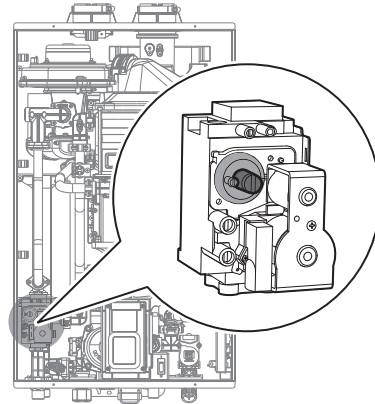

Figure 10
- c. Fully open a hot water fixture and set the water heater to operate at 1-stage MIN mode (refer to page 45). Measure the offset value at low fire and compare it to the values in Table 3. If the offset value is out of range, the gas valve set screw will need to be adjusted. If adjustment is necessary, locate the set screw as shown in Figure 10. Using a 5/32 in or 4 mm Allen wrench, turn the set screw no more than 1/4 turn clockwise to raise or counterclockwise to lower the offset value.